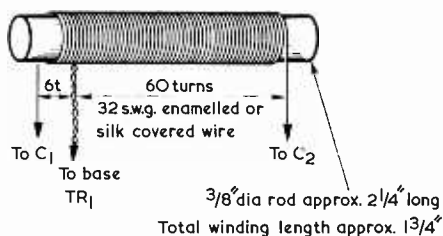

Fig. 4. The ferrite rod assembly. Turns are spaced out to give the winding length indicated
- L1 See text and Fig. 4
The ferrite rod aerial is constructed as shown in Fig. 4. The actual number of turns may be altered to suit individual tuners. If one wished to cover the higher frequency end of the medium wave band, then a few less turns can be wound at the end of the coil which connect directly to C2. If a piece of ferrite rod is available which is not the same diameter as the rod suggested, this could be used and the number of turns required to tune the portion of the medium wave band desired found by trial, although the position of the tapping in relation to the total number of turns should be in about the same ratio.